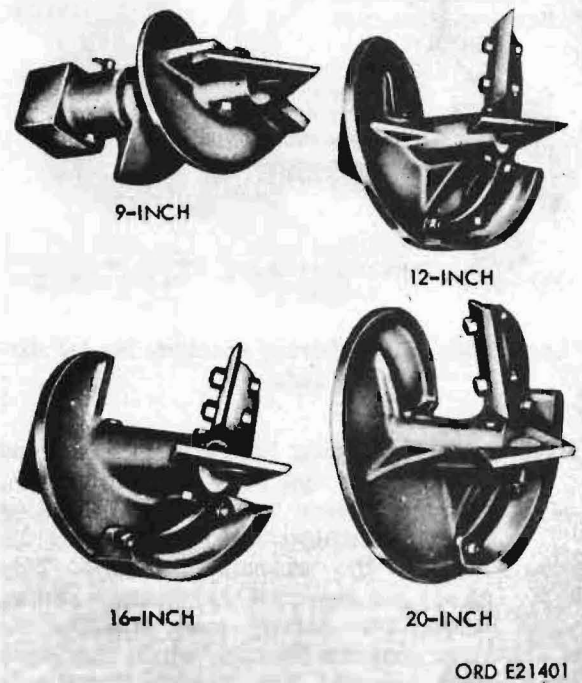

Figure 155. 9-, 12-, 16-, and 20-inch earth augers
- (1) The earth boring machine is designed for boring holes in most kinds of soil, and for setting poles when used in conjunction with the V-18A/MTQ rear winch. Four earth augers (fig. 155)